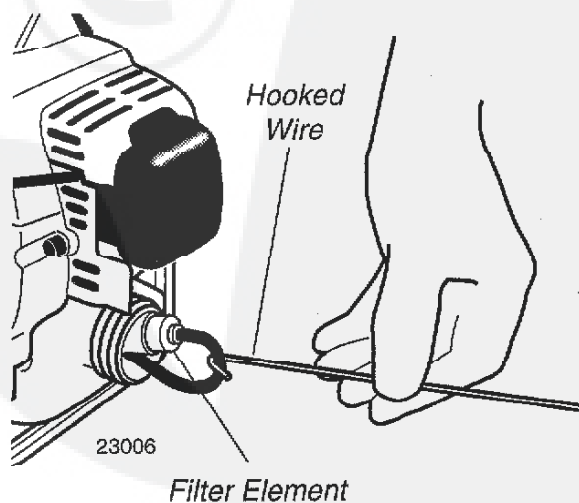

Figure 35
- Use a wire hook to extract the fuel filter from inside the fuel tank (Figure 35). Inspect the fuel filter element. If it shows signs of contamination from debris, replace it with a genuine Shindaiwa replacement fuel filter element. Before reinstalling the filter, inspect the fuel line. If you discover damage or deterioration, the unit should be removed from service until it can be inspected by a Shindaiwa-trained service technician.